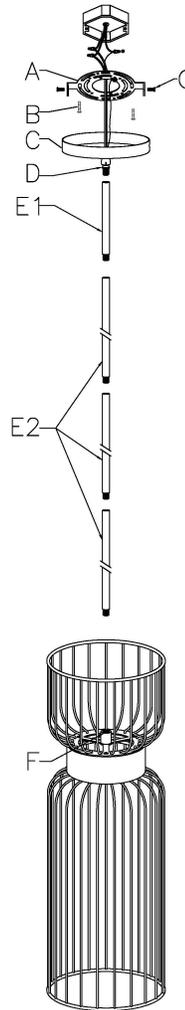

Fig. 2
CONNECTING THE WIRES (Fig. 2)
5. Connect the electrical wires as shown in fig.2, making sure that all wire connectors are secured. If junction box has a ground wire (green or bare copper), connect the fixture's ground wire to it. Otherwise, connect the fixture's ground wire directly to mounting plate (A) using the green screw provided.